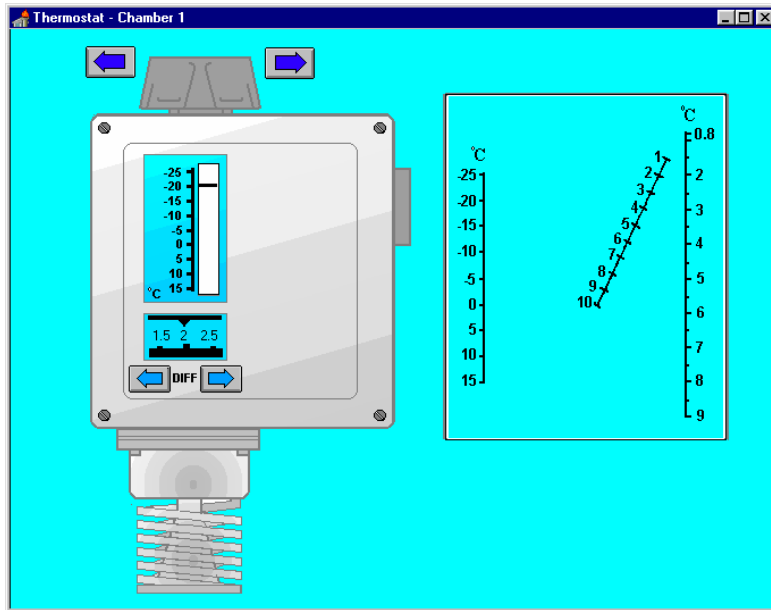

Fig. 7 Thermostat diagram /TER/
- chamber 1 thermostat diagram TER 1 /fig.7/,
- chamber 2 thermostat diagram TER 2 /fig.7/,